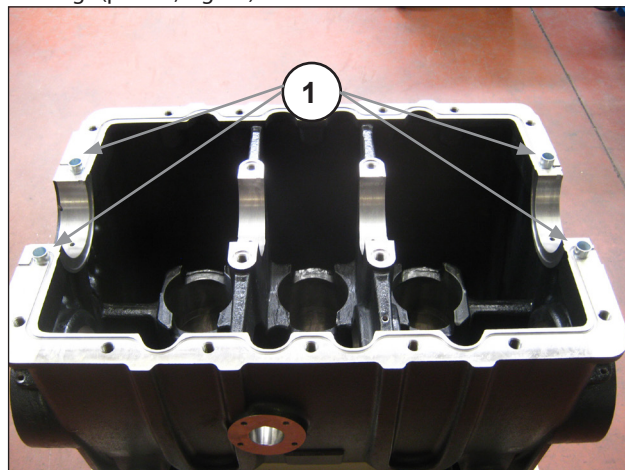

Fig. 64
Fit the locating bushes into the holes on the crankshaft main bearings (pos. ①, Fig. 64).